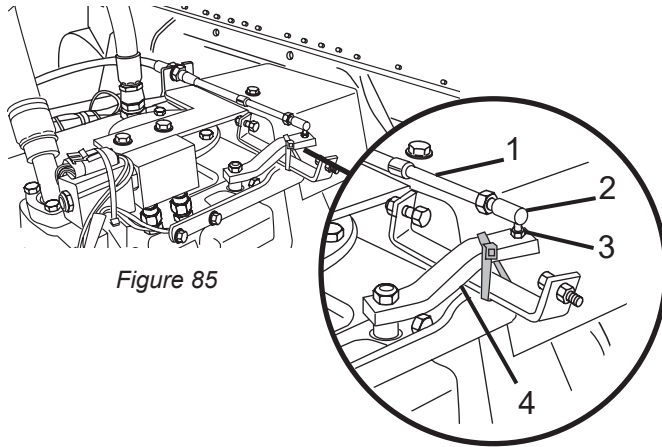

Figure 85
1. Move the pump control lever (Figure 85, Item 4) to engage the drum drive in the CHARGE direction. Move the lever until the drum is rotating at approximately 1 to 1-1/2 RPM in the CHARGE direction.
3. Once the truck is delivered to the repair shop and properly parked, return the pump control lever to the neutral position, and connect the control cable (Figure 85, Item 1) to the pump control lever (Figure 85, Item 4), by pulling back the head (Figure 85, Item 2) of the cable and installing the cable over the pivot (Figure 85, Item 3). Release the cable head (Figure 85, Item 2).